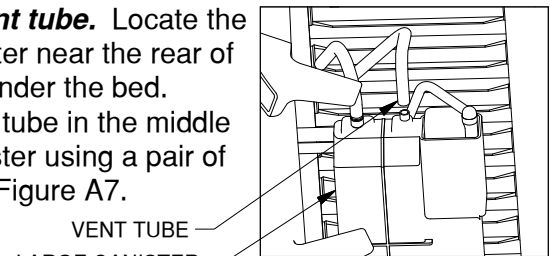

Figure A7
10. **Detach vent tube.** Locate the large canister near the rear of the truck, under the bed. Detach the tube in the middle of the canister using a pair of pliers, see Figure A7.